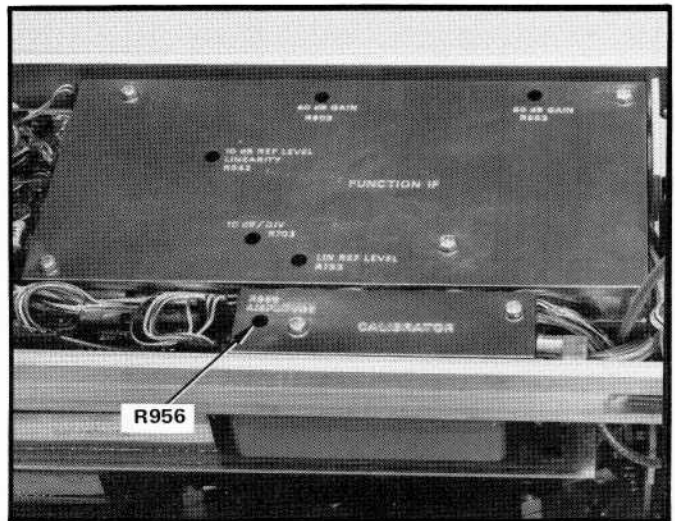

Fig. 4-21. Location of R956, Calibrator Output Level adjustment.
- 4) The calibrator output level can be adjusted by, removing the left vertical plug-in unit and the oscilloscope left side panel to gain access to the 7L13 calibrator. Adjust R956 (Fig. 4-21) for an output level of −30 dBm (7.07 mV RMS).